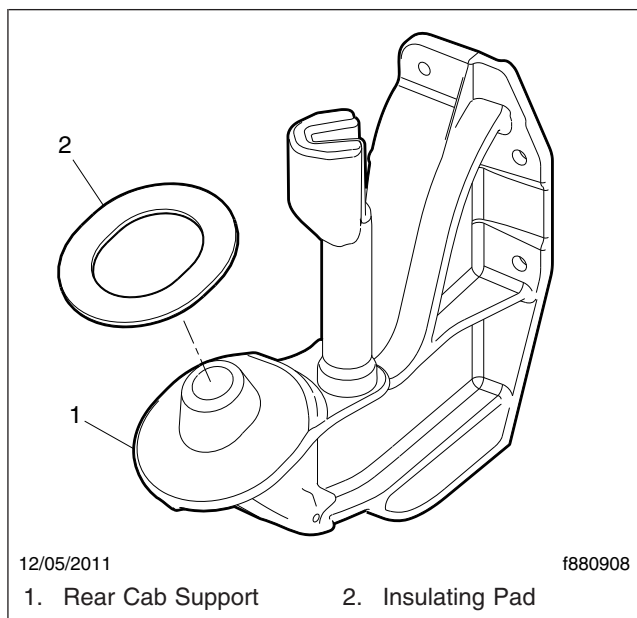

Fig. 2, Insulating Pad Installation
4. Remove the backing from the adhesive on the insulating pad, then attach it to the hood support. See Fig. 2. Repeat on the other side of the vehicle.